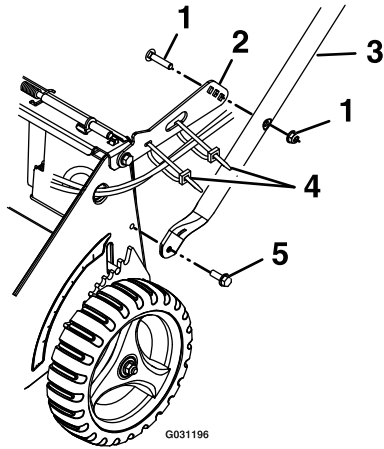
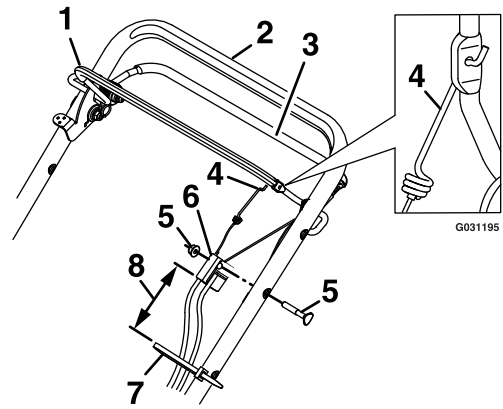
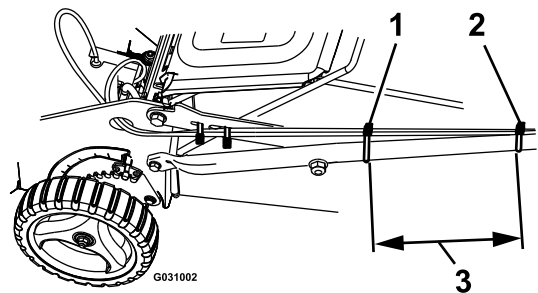
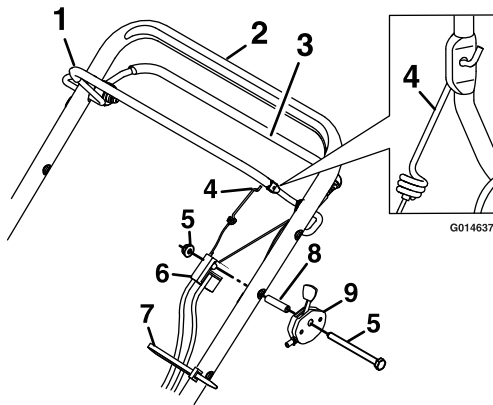

Figure 1
Figure 2
Figure 3
Figure 4
2. Lift the handle brackets upward and mount the handle to the outside of the mower housing as shown in Figure 1. Torque the handle mount screw to 25 ft-lb (34 N-m).
2. Route the cables of the drive/brake cable assembly on the handle as shown in Figure 1 and Figure 2.
3. Hook the ends of the drive/brake cable assembly to the blade and drive bails as shown in Figure 2.
4. Attach the drive/brake cable assembly to the handle and mount into the handle hole as shown in Figure 2. Do Not overtighten.
5. Route the cables tight against the inside of the handle. Use the two wire ties provided to secure the cables tight against the handle. Place the upper wire tie 4 inches (10 cm) below the drive/brake cable assembly as shown in Figure 2. Space the lower wire tie about 12 inches (30 cm) from the upper one, as shown in Figure 3. Make sure the cables are snug against the handle bracket. Trim the wire ties.
2. Route the cables of the drive cable assembly on the handle as shown in Figure 1 and Figure 4.
3. Hook the ends of the drive cable assembly to the blade and drive bails as shown in Figure 4.
4. Attach the drive cable assembly to the handle and mount into the handle hole as shown in Figure 4.